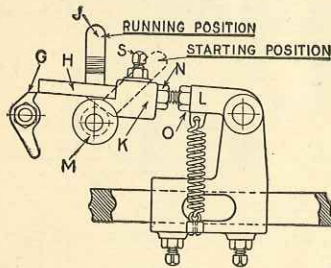

Figure 7.
**Second.** Place the timing lever "J" (Figure 7) in the starting position. This retards the spark and prevents the engine from kicking back when you start it.
**Fifth.** As soon as engine starts open the air damper, change the timing lever "J" (Figure 7) to the running position and close the fuel valve slowly until the point is reached where the engine runs with the least number of explosions and without black smoke appearing at the exhaust or a popping sound at the mixer, the latter being caused by an insufficient supply of fuel, and smoke at the exhaust by too much fuel.
**Second.** Place the timing lever "J" (Figure 7) in the starting position and turn the flywheels to the right until the igniter trips, then stop.